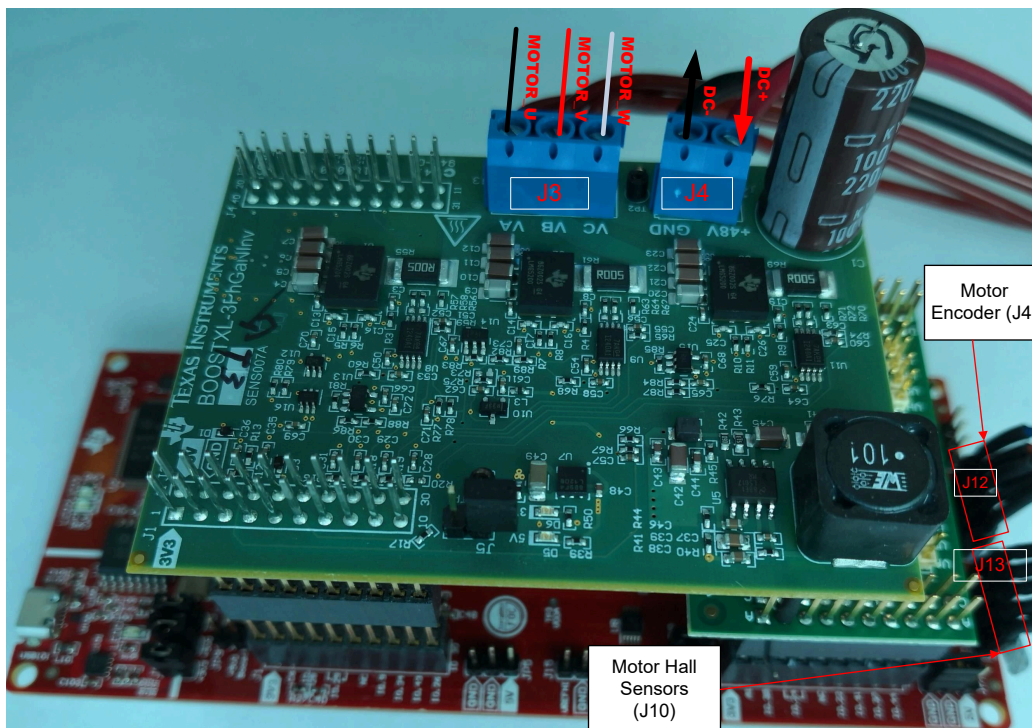

Figure 2-9. LAUNCHXL-F280025C Connects BOOSTXL-3PHGANINV and DAC128S085EVM
- Make sure that the following items are set as described below, and then connect **BOOSTXL-3PHGANINV** to J1/J3 and J4/J2 site of **LAUNCHXL-F280025C** as shown in **Figure 2-9**.
- Connect the motor, encoder, and hall sensors to the kits as described in **Table 2-2** and shown in **Figure 2-9**.